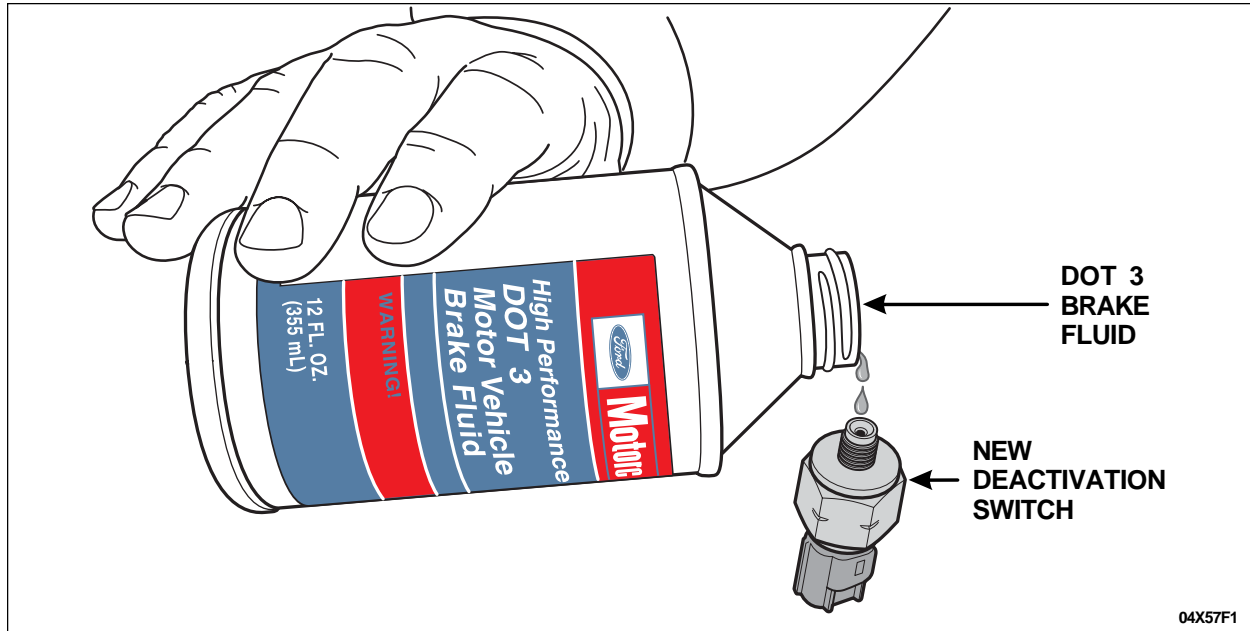

FIGURE 2
2. Add a few drops of Motorcraft High Performance DOT 3 Motor Vehicle Brake Fluid, PM1-1 or PM-1-C (US), CPM-1-C (Canada), to the fluid port at the threaded end of the **new** SCDS. See Figure 2.